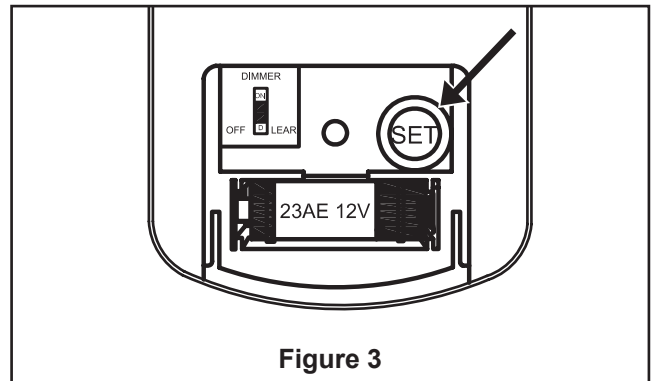

Figure 3
3. Follow the below steps to set the remote: (Figure 3)
- ☐ 3. Tight the two screws from the motor coupling cover. (Figure 3)